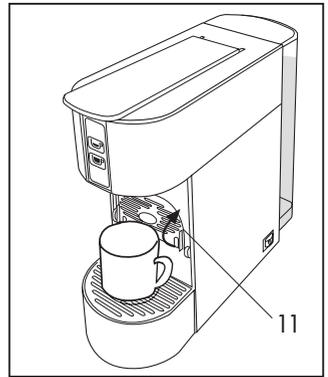

Fig.5
### (Fig. 5)
To use large cups, close the support (11) and place the cup directly on the grid of the drip tray (5) (Fig. 5)